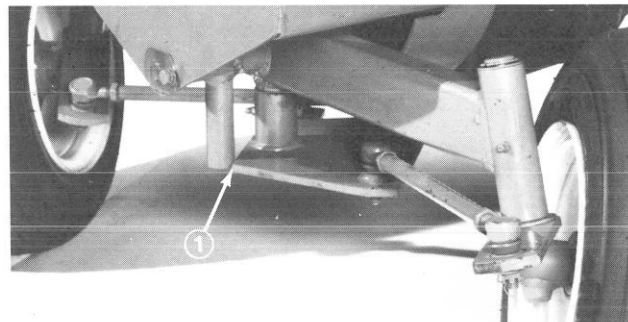
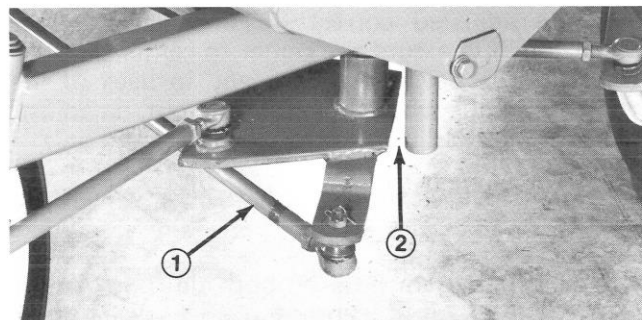

Figure 68
Figure 69
4. Turn steering wheel completely to the right until it bottoms out in steering gear box. Check steering plate with respect to stop on rear axle pivot (Fig. 68). Steering plate must contact the stop. If parts do not contact, loosen jam nuts on rear steering rod (Fig. 69). Shorten the rear steering rod until steering plate contacts the stop while steering wheel is locked for a full right turn (Fig. 68).